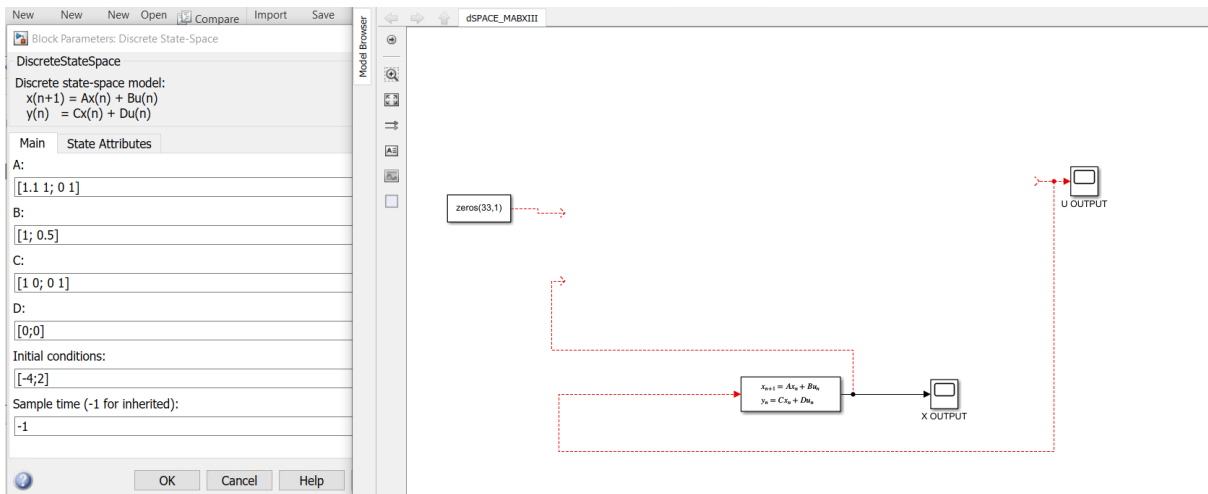

Figure 12.57: Populate the Simulink model.
- 3) Populate the Simulink model with the system you want to control (see Figure 12.57).